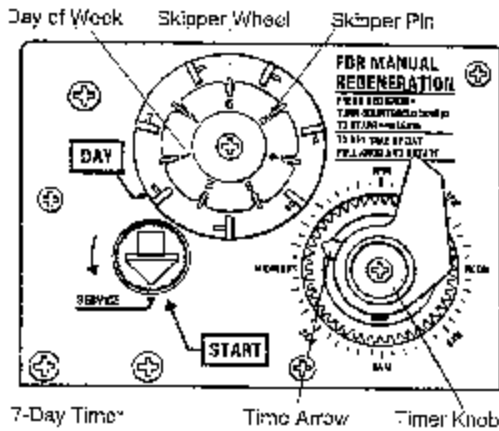

Figure 7
- Step 1: Remove valve cover by partly unscrewing the three cover securing screws and lifting the cover forward. Remove the clear plastic window in the cover by removing two screws and loosening the other two screws and sliding the window out. Replace the cover on the valve. Connect the power lead to the power point and turn on the electric power. Depress the **red knob** (*Fig. 7*) and rotate **anti-clockwise** to **backwash** position, release **red knob**, Note that the timer face design can vary between valve models from that illustrated and that the regeneration positions are indicated **pictorially** with Backwash being **Flow** show in a **Upward direction** and the other regeneration positions shown with their corresponding flow path. Wait for valve drive to index to backwash position, (if not already in this position) that is the spindle is fully extended. **Ensure that the brine throttle/stop valve is fully closed.**
Determine a regeneration schedule for the conditioner and adjust the automatic timer as follows (Reference Figures 7 & 8):